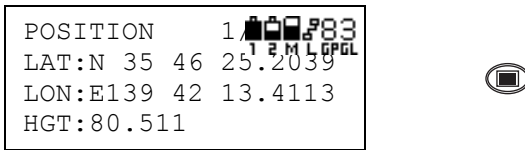

Figure 3-3. Current Display and Menu Key
1. Press the **menu** key (Figure 3-3), initiating the MENU mode.